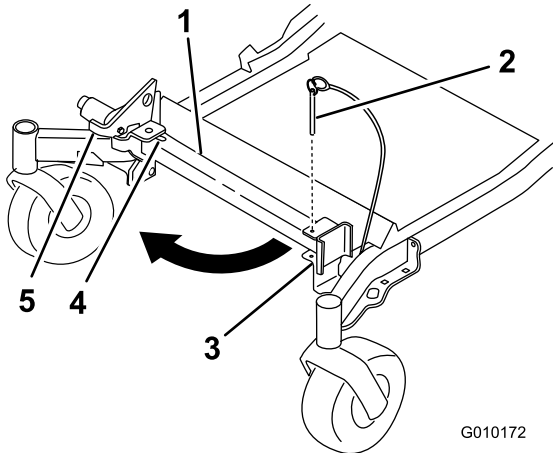
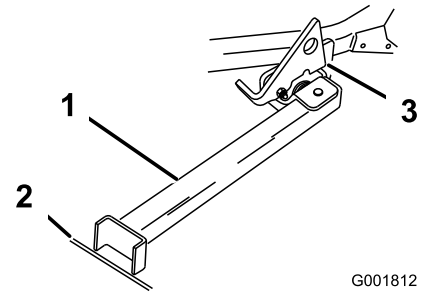

Figure 41
Figure 42
2. Remove the bracket pin (Figure 41).
3. Raise the latch. Swing the stand foot out front and slide stand toward machine, into the bottom of slot (Figure 41 and Figure 42).
4. Set the foot of stand on the ground and rest the latch on the pivot tab (Figure 42).
- Note:** For best results, place the foot of stand into seams in sidewalks or into the turf (Figure 42).
6. Drive onto the stand. Stop when the latch drops over the tab into the locked position (Figure 42). Once onto the stand, engage the parking brake and turn off the engine.
5. Return the stand to its rest position (Figure 41).